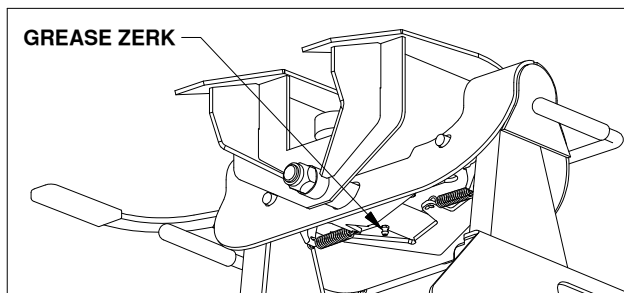

FIGURE G1: View under saddle.
- Grease the saddle through the grease zerk approximately every six months with multi-purpose grease. this allows the coupler to pivot freely, see figure G1.